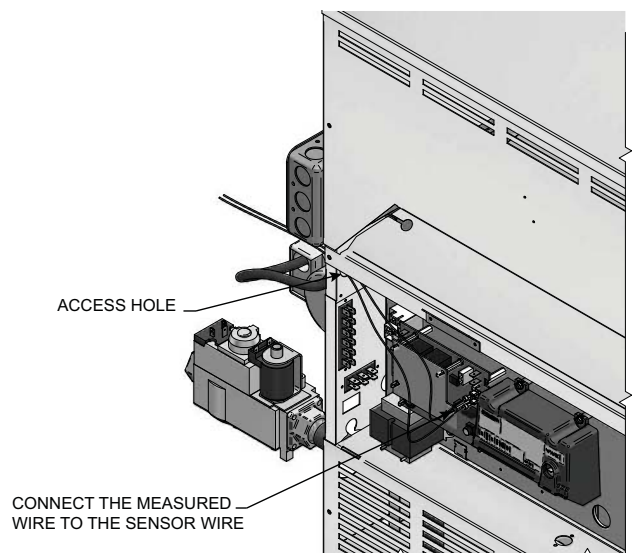

Figure 5-4 Installation of Remote Sensors
5. Connect the measured wire to the sensor wire using wire caps (see FIG. 5-4). Install .250 x .032 insulated female quick connect terminals to the end of the wires. Feed the wires through the access hole located on the back of the unit and secure the connectors to the thermostat connections (Sys/Tank) CN5 and CN6 located in the upper right-hand of the thermostat.